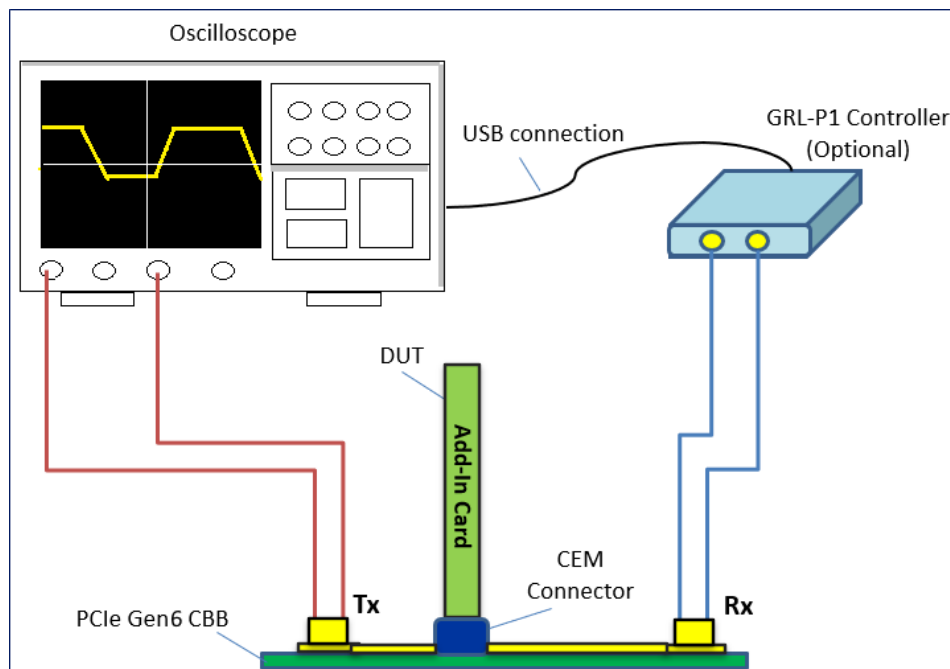

FIGURE 30. CONCEPTUAL PCIe GEN6 ADD-IN CARD TX TEST SETUP DIAGRAM USING GRL-P1 (WITHOUT RF SWITCH)
1. Using the same connections from Figure 30, connect the Tx+ and Tx- Data Lanes from the CBB to the RF Switch Inputs.